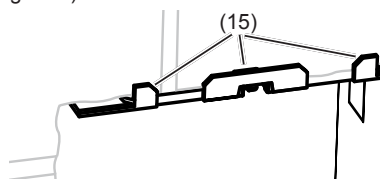

Figure 4: Installation position of fastening elements
- The support bracket (15) of the fastening elements must be located on the wall surface (Figure 4).